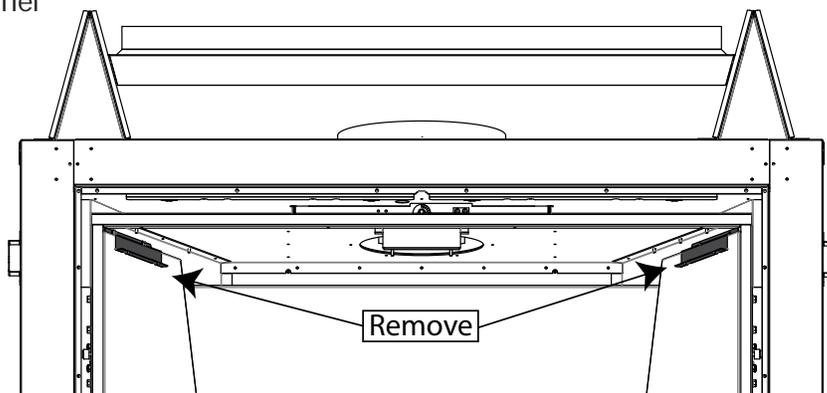

Figure 74: Liner Retainers
**Step 3.** Remove the side liner retainers one at a time using a 5/16 socket (see Figure 74). The screws only have to be loosened, not completely removed, as the retainers are slotted. **\*Note:** The upper rear liner is supported by the side liners. When removing the side liners, be sure to properly support the upper rear liner so that it does not fall.